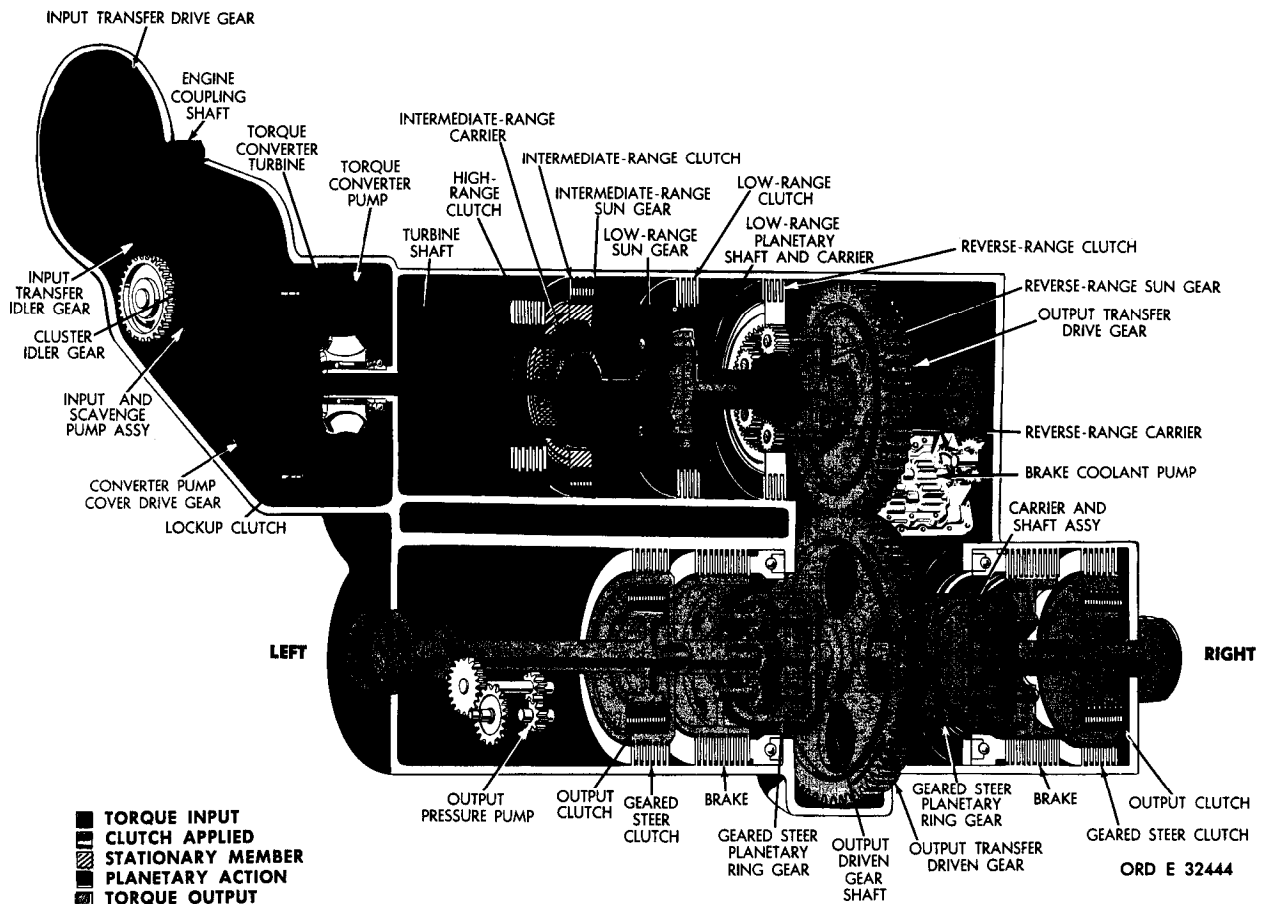

Figure 25. Third-gear torque path, lockup operation
**49. TORQUE PATH - THIRD GEAR, LOCKUP OPERATION (fig. 25)**